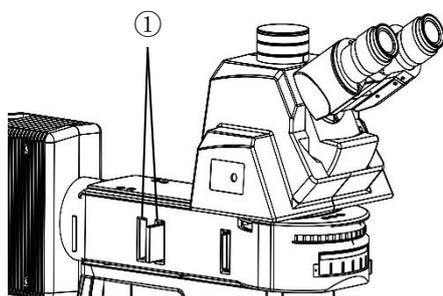

Fig.21
3-17 Color filter use (Fig.21)
- ⊙ Insert the filter rack most suitable for observation purposes into the filter slot (Num ①, Fig.21), and be sure to insert it from the left.